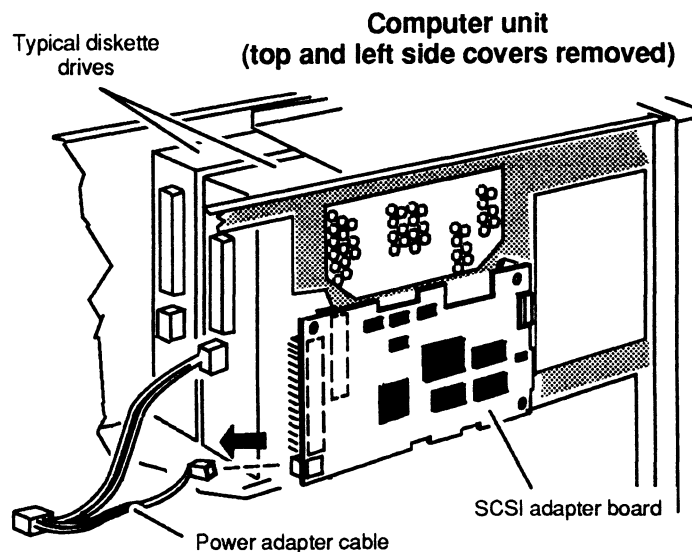

Figure 2-16 Unplugging the Power Adapter Cable from the SCSI Adapter Board
2. Unplug the power adapter cable from the SCSI adapter board as shown in Figure 2-16.